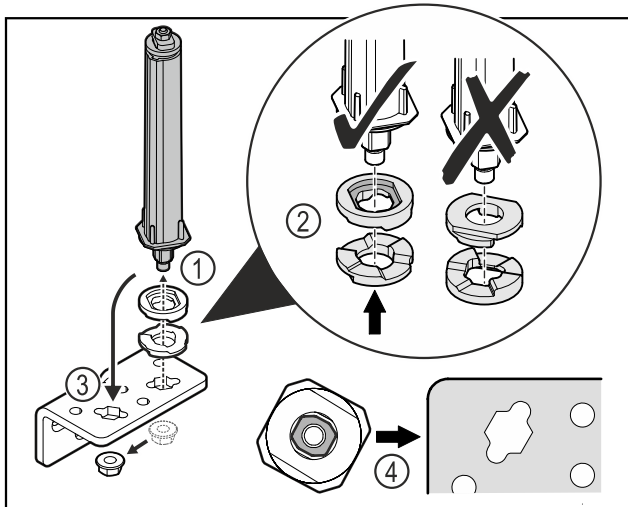

Fig. 37
- ▶ Loosen the nut and remove the door closing system Fig. 37 (1).
- ▶ Observe the correct alignment of the height adjustment washers Fig. 37 (2).
- ▶ Put the door closing system in the hinge and fix in place with the nut Fig. 37 (3).
- ▶ Observe the correct alignment of the door closing system when doing so Fig. 37 (4).